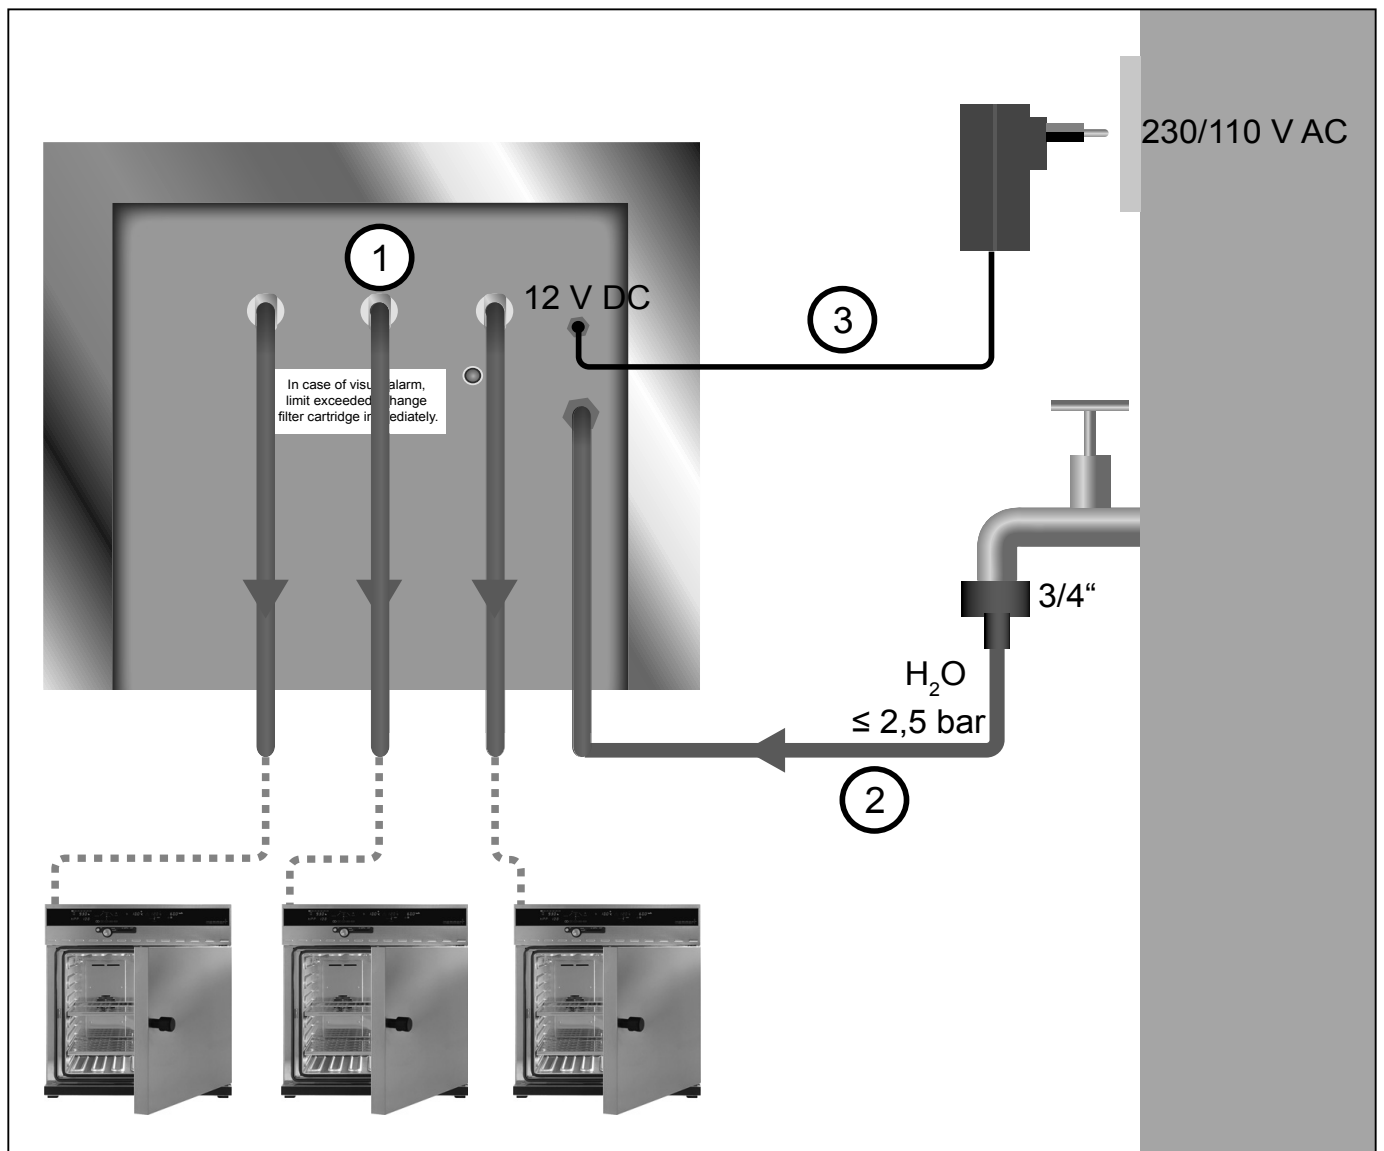

Fig. 3 Connection diagram
(See connection diagram. Fig. 3)
1. Connect every MEMMERT appliance that is to be supplied with demineralised water to the central water supply. To do so, connect the water pipe of the appliance, which is normally connected to its water tank, to one of the three connections at the front of the central water supply (Fig. 3, No. 1). Push the tube into the connection. It is automatically locked. Read the operating instructions of the respective appliance when doing this.